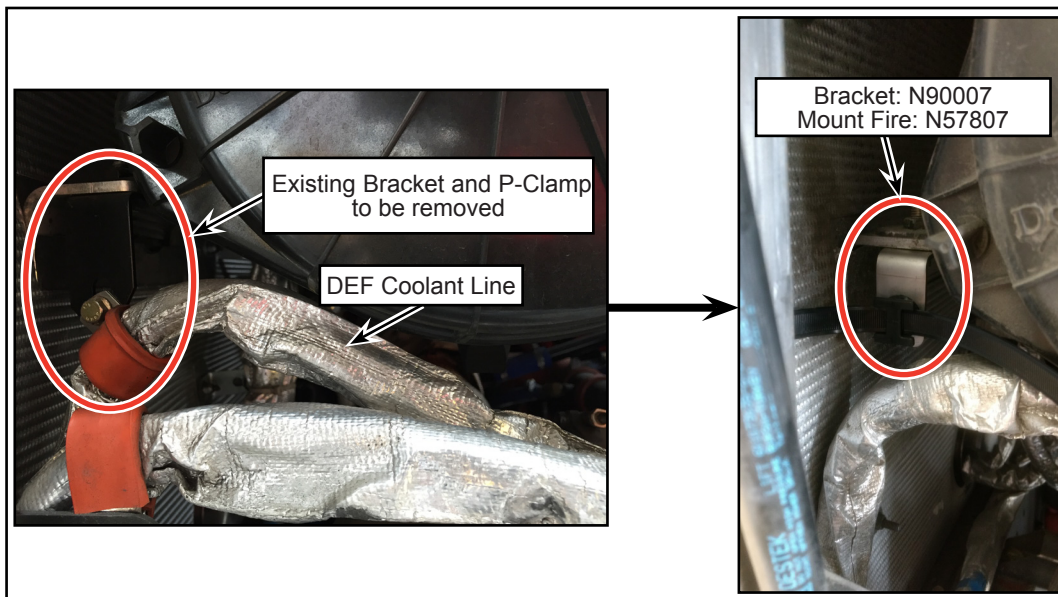

Figure 12 - Installation of P-Clamp and Tie Wrap
- 1.16. Reposition the lower coolant line at the lowest point as shown (see Figure 12).
- 1.17. Install the p-clamp N31320-04 on the bracket to secure the lower coolant line (see Figure 12).